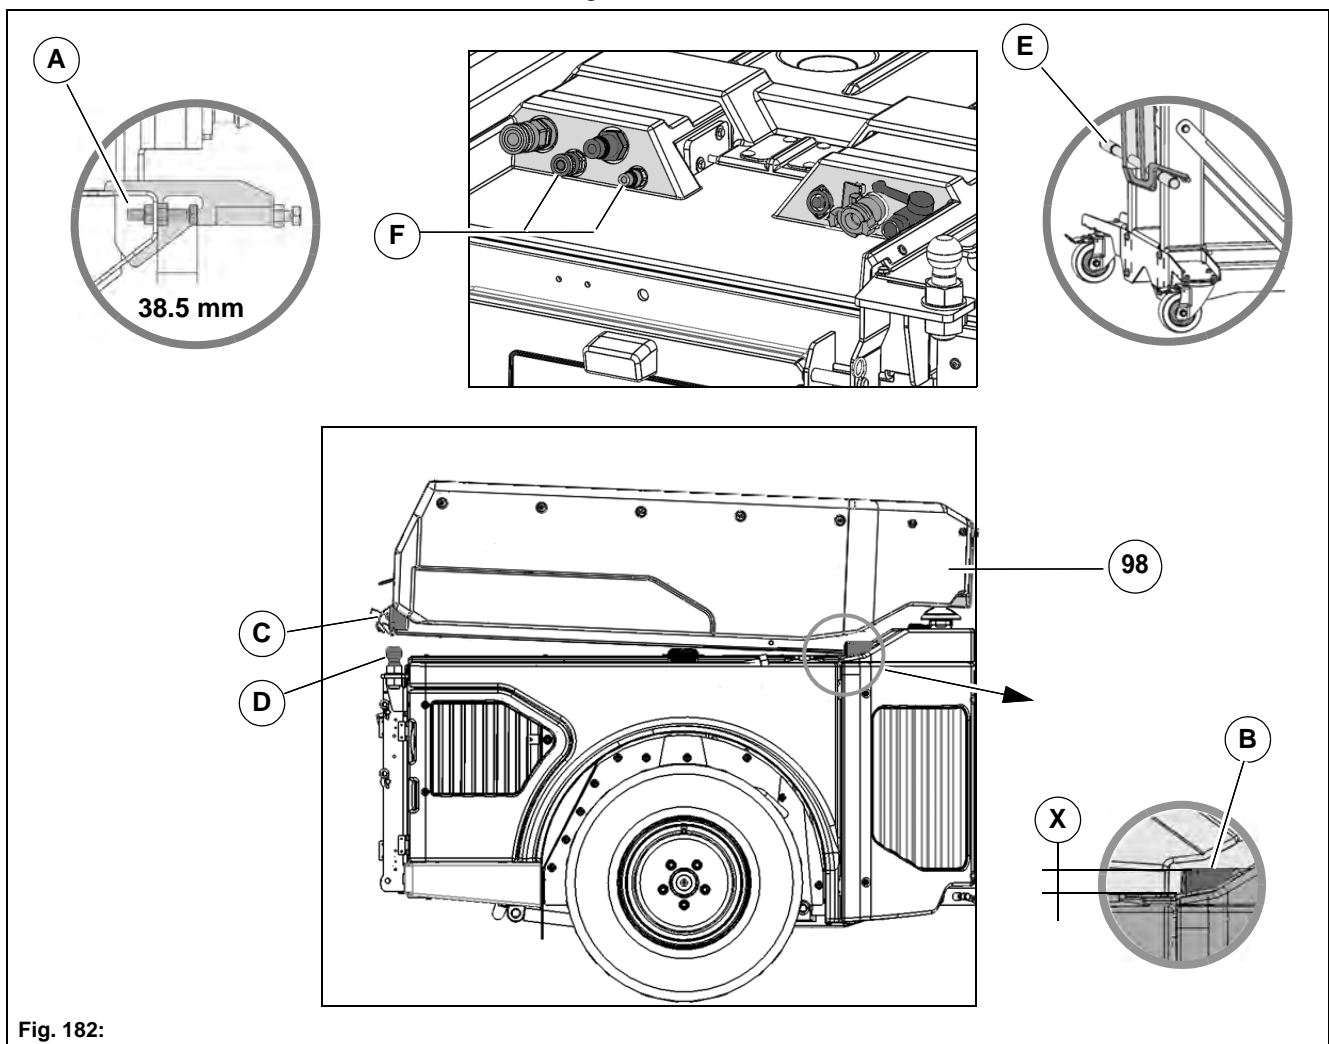

Fig. 182:
- Loading platform raising/lowering – Supply/return = **Fig. 182-F**